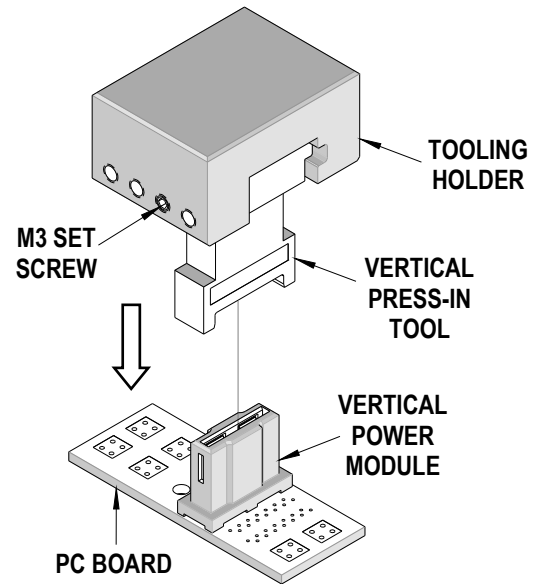

Figure 2-12
- One (1) set screw against modules under 10mm wide
- Two (2) set screws evenly spaced on a 10mm wide power module.
- At least three (3) set screws evenly spaced on a 25mm wide power module.
3. Carefully pre-seat, by hand, the vertical power module(s) into the printed circuit board hole pattern. See Figure 2-12. Make sure the module(s) are oriented properly to the printed circuit board layout.